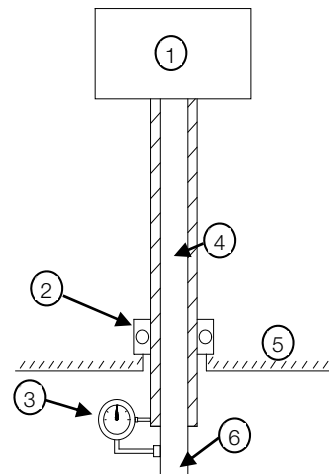

Figure 4.12: Alignment of motors with hollow shaft
1. Fix the dial gauge by its magnetic base to the pump shaft and align it with the base surface (motor shaft), setting the dial gauge to zero (Figure 4.12);
**Figure 4.12 legend:**